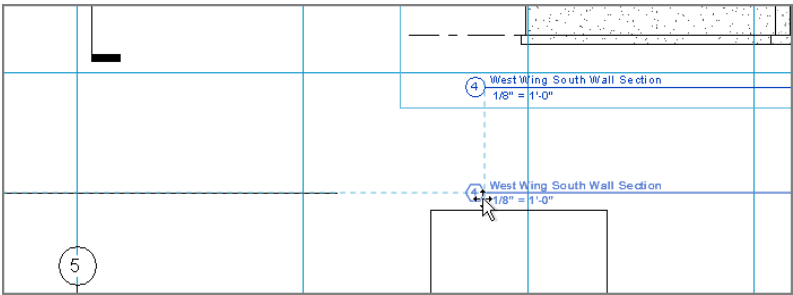

FIGURE 14.12: You can select the view title independently of the actual viewport.
4. Select the view title, as shown in Figure 14.12.
5. Move it down. As you move the view title, it snaps in alignment to the view title to the left (see Figure 14.12).